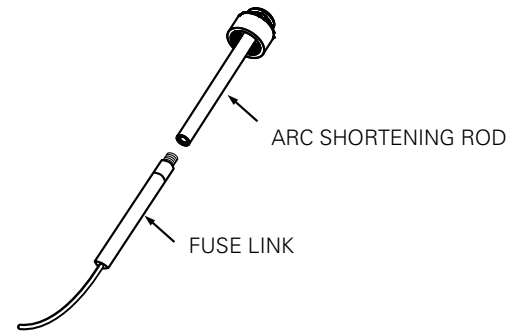

Figure 6. Installation of fuse link with an arc shortening rod.
- B. Screw the arc shortening rod (attached to cap) onto the fuse link and tighten firmly (See Figure 6).
Table 3. UltraSIL Polymer-Insulated and Porcelain Type L Cutouts Dimensional Data (refer to Figure 6)